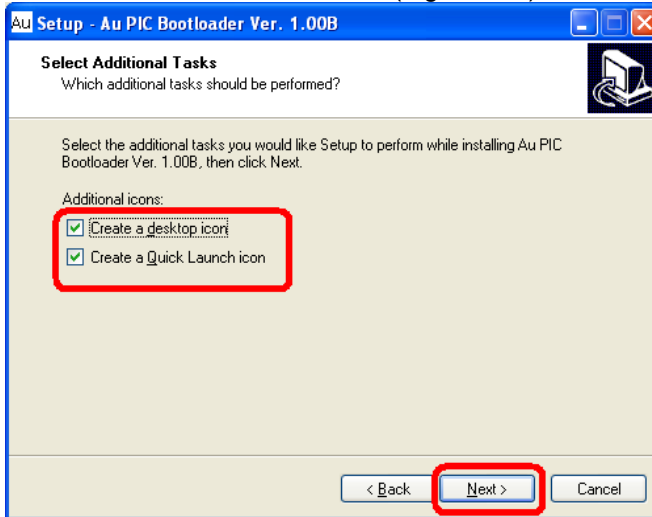

Figure C-6
6. "Select Additional Task" window shows up, check both "create a desktop icon" and "Create a quick launch icon", and then click "next" to continue (Figure C-6).